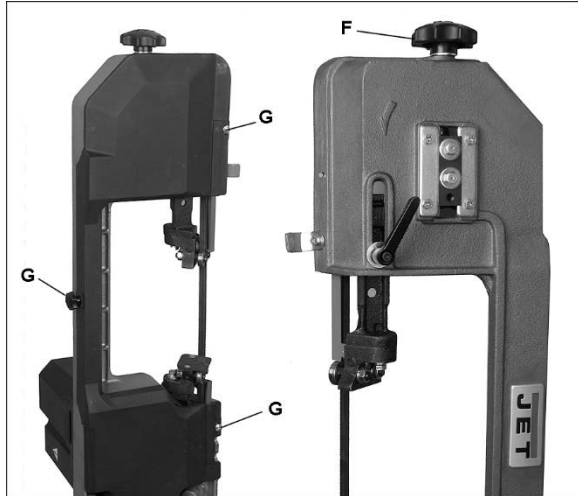

Figure 7-2
2. Open blade cover by removing knob and 2 screws (G, Figure 7-2). Observe position of blade on wheel. If blade is not adjacent to wheel flange, first adjust blade tracking according to *sect. 7.6, Blade tracking*, then proceed to step 3.
3. Turn blade tension handle (F, Figure 7-2) clockwise to tighten blade. Pluck the blade with your finger; a tensioned blade will emit a “twang” sound.
4. Release tension on blade by turning tensioning knob (F, Figure 7-2). Slide blade off wheels.